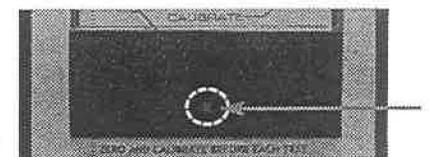

Figure 1
1. Check that the meter is mechanically zeroed. If it isn't, the needle can be rezeroed by using the adjustment knob on the meter faceplate (C). See Figure 1.